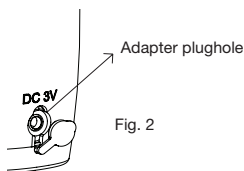

Fig. 2
1) The output port (adapter connector) is connected to the adapter plugholes under the back side of the main unit (see Fig. 2).